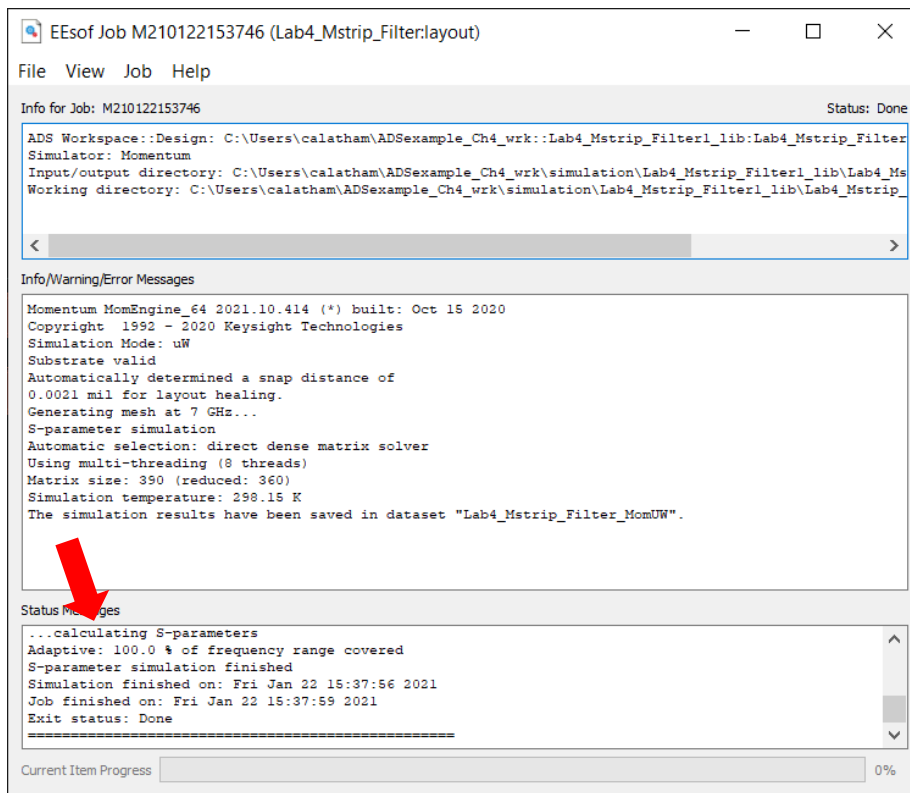

Figure 21. Momentum Simulation Status Window
- b. Momentum Simulation Status window (Figure 21): Displays simulation status. It shows the time when simulation finishes and displays the frequency points used to achieve the converged results. This is because the sweep type was set to adaptive. Adaptive sweeps automatically stop once the results converge.